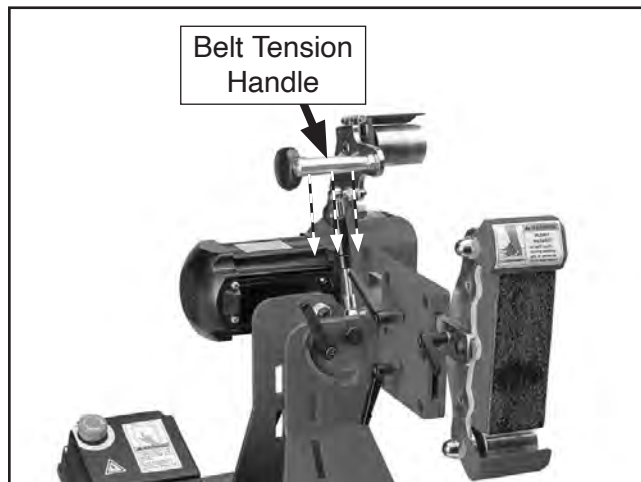

Figure 55. Direction to push belt tension handle.
7. Push belt tension handle (see **Figure 55**) toward frame tilt lock handle to test gas strut compression.